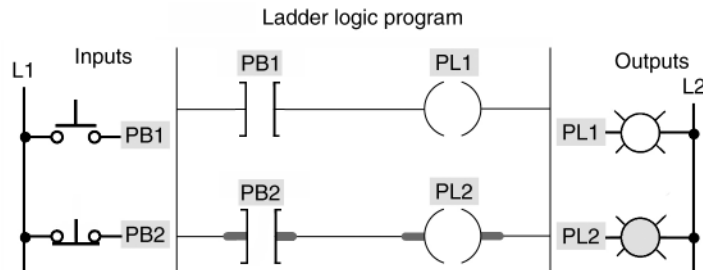

Figure 2-15 Program for assignment 2.
2. (a) Program your controller to operate according to Figure 2-15.